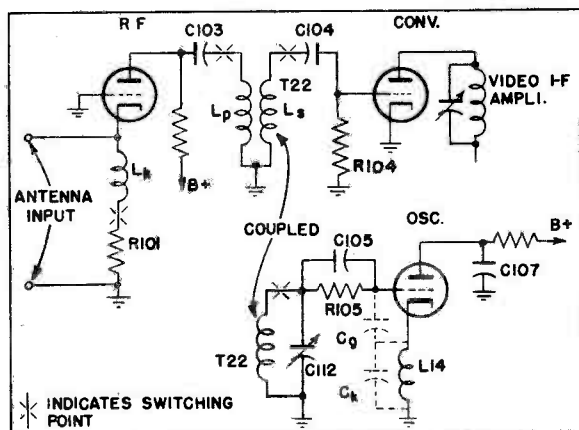

Fig. 2. R-f Amplifier, Converter & Oscillator
1. R-F AMPLIFIER, CONVERTER & OSCILLATOR (See Figure 2)—